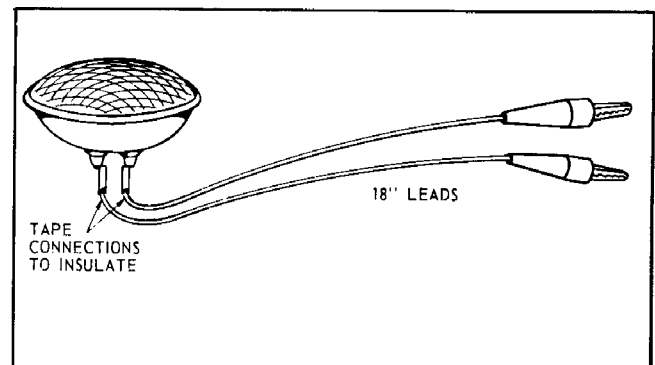

Figure 19
G.E. No. 4001 sealed beam headlight or equivalent. Available from automotive parts supplier. Attach leads and clips as shown in Figure 19.